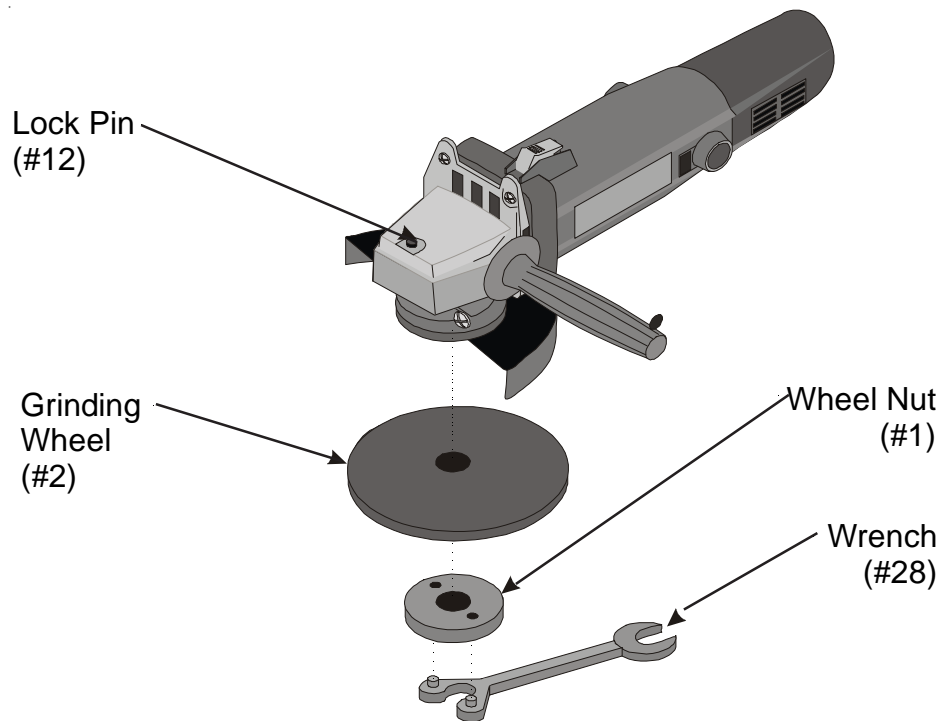

Figure 3 — Removing Wheels
Step 1: Depress the LOCK PIN (#12) and turn the GRINDING WHEEL counterclockwise until the LOCK PIN engages. (See Figure 3).